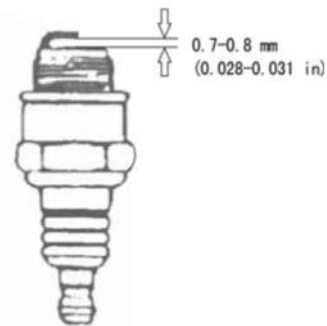

Figure 17 - Measuring the Spark Plug Gap
4. Measure the spark plug electrode gap with a gauge. The gap should be 0.028-0.031 in (0.7-0.8 mm). (See Figure 17.)